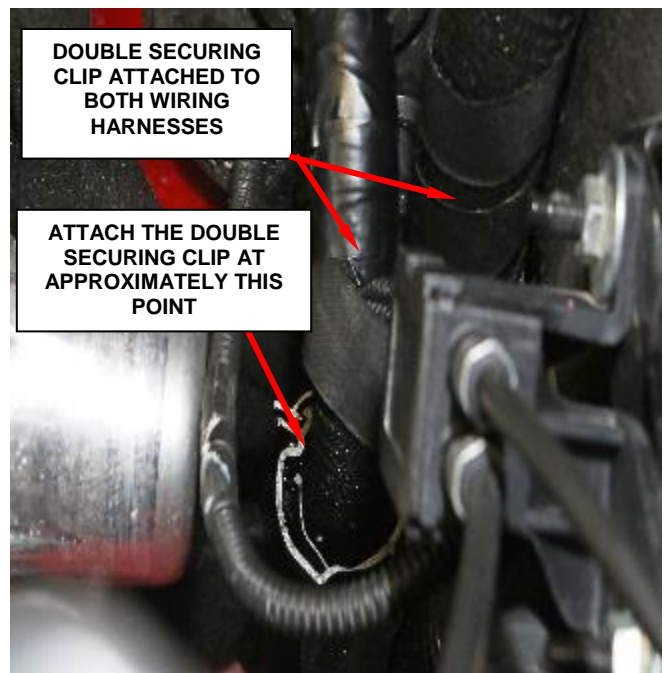

Figure 21 – Double Securing Clip
- a. Arrange the wiring in the current position, as shown (Figure 21).
- b. Apply a double securing clip in point on the wiring (Figure 21).
- c. Then constrain the wiring to the double clip (Figure 21).